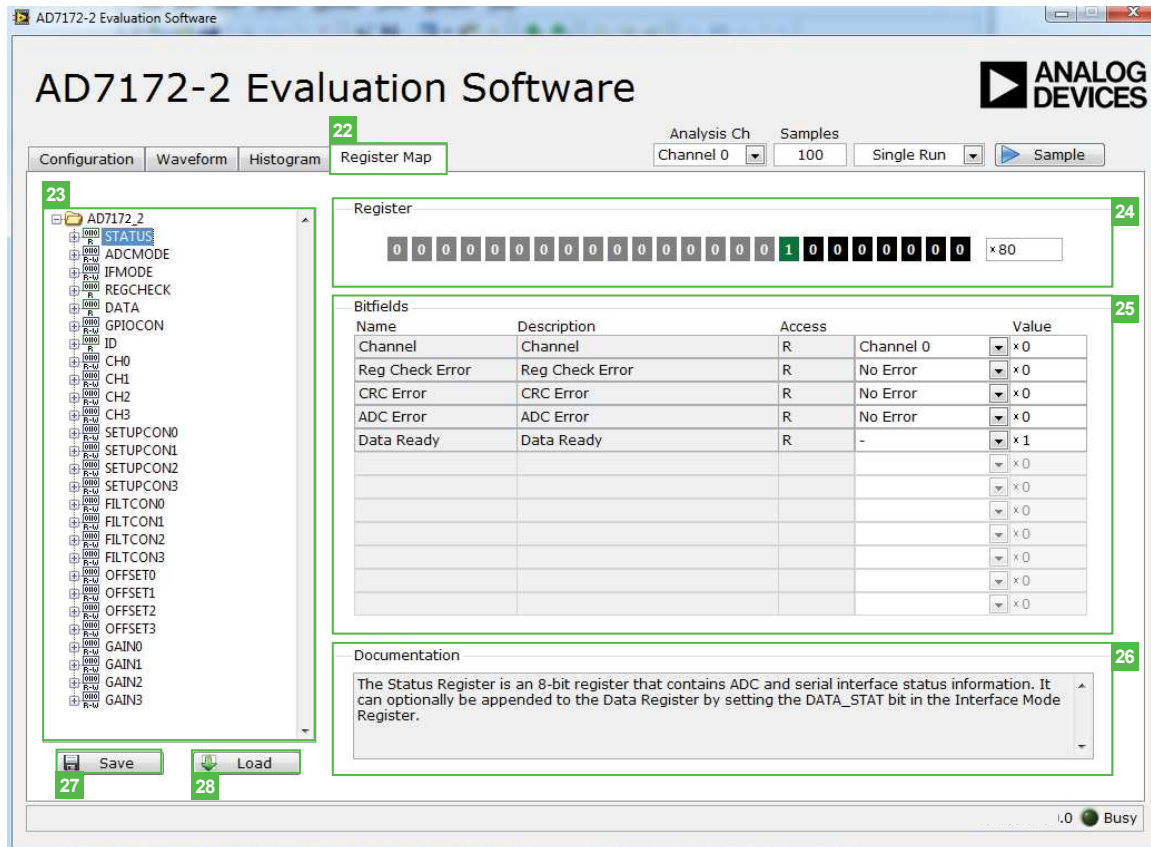

Figure 10. Register Map Tab of the AD7172-2 Evaluation Software
See Figure 10 for the Register Map (22) tab.
The register tree (23) control shows the full register map in a tree control. Each register is shown. Click on the **Expand** button next to each register to show all the bit fields contained within that register (see Figure 10).
The Register (24) control allows you to change the individual bit of the register selected in the register tree (23). Click on the bit in the register tree (23) or program the register value directly into the number control on the right (see Figure 10).
The Bitfields (25) list shows all the bit fields of the register selected in the register tree (23). Change the values using the drop-down menu or by directly entering a value into the number control on the right (see Figure 10).
The Documentation (26) field contains the documentation for the register of the bit field selected in the register tree (23) (see Figure 10).
The Save (27) and Load (28) buttons allow you to save the current register map setting to a file and load the setting from the same file (see Figure 10).